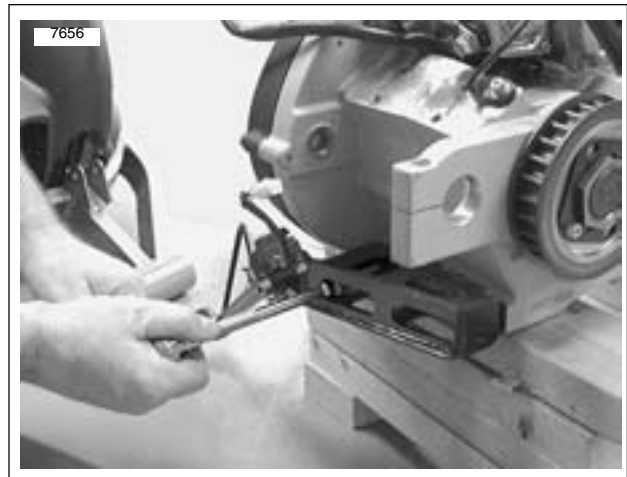

Figure 3-20. Side Stand Bracket
34. See Figure 3-20. Remove side stand and bracket assembly. See 2.29 SIDE STAND